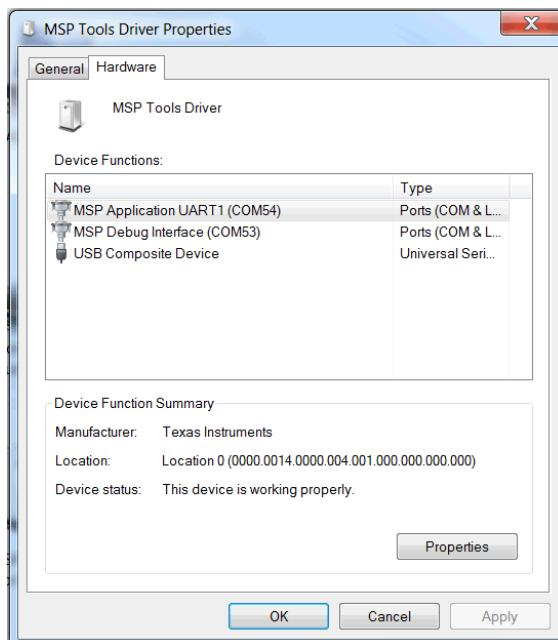

Figure 13. MSP Tools Driver Properties
- Two COM ports are available in the Properties windows. BSL communication using MSP-FET is supported by MSP Application UART1. In the example in Figure 13, COM54 should be used to communicate with the BSL.